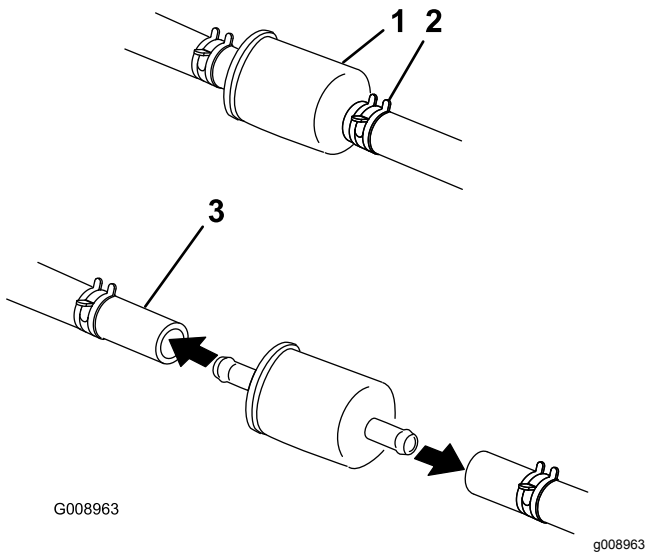

Figure 39
5. Squeeze the ends of the hose clamps together and slide them away from the filter (Figure 39).
7. Install a new filter and move the hose clamps close to the filter (Figure 39).